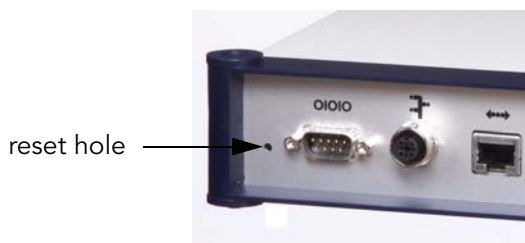

Figure 22. Resetting an A840 Device
2. Reset the A840 device by gently inserting a paper clip in the hole on the backplane near the serial line connector (see Figure 22). After you feel a click, remove the paper clip.